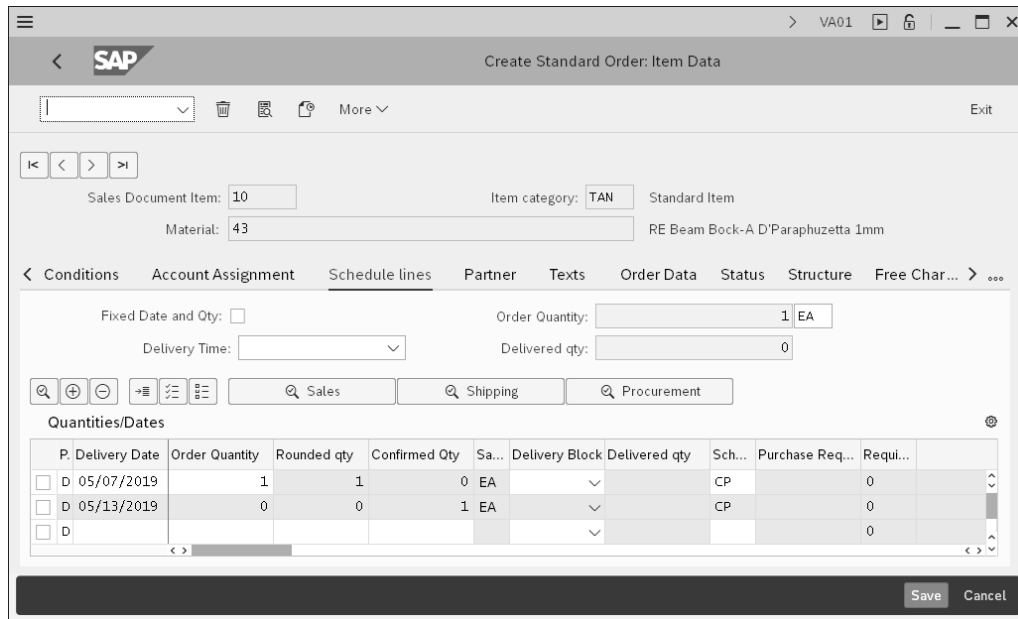
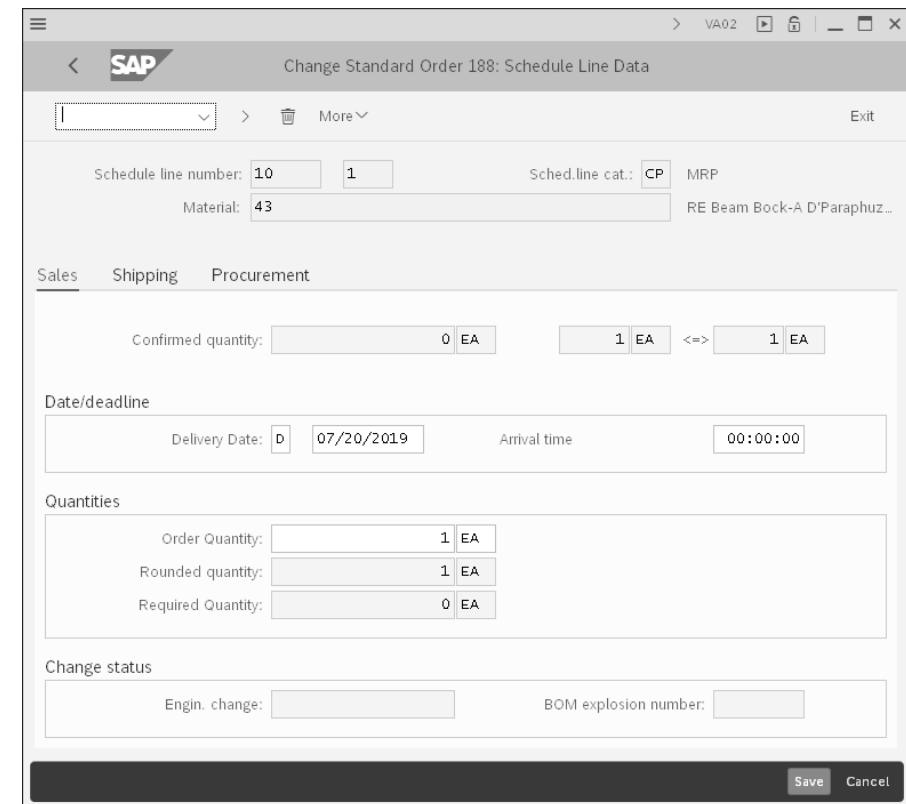
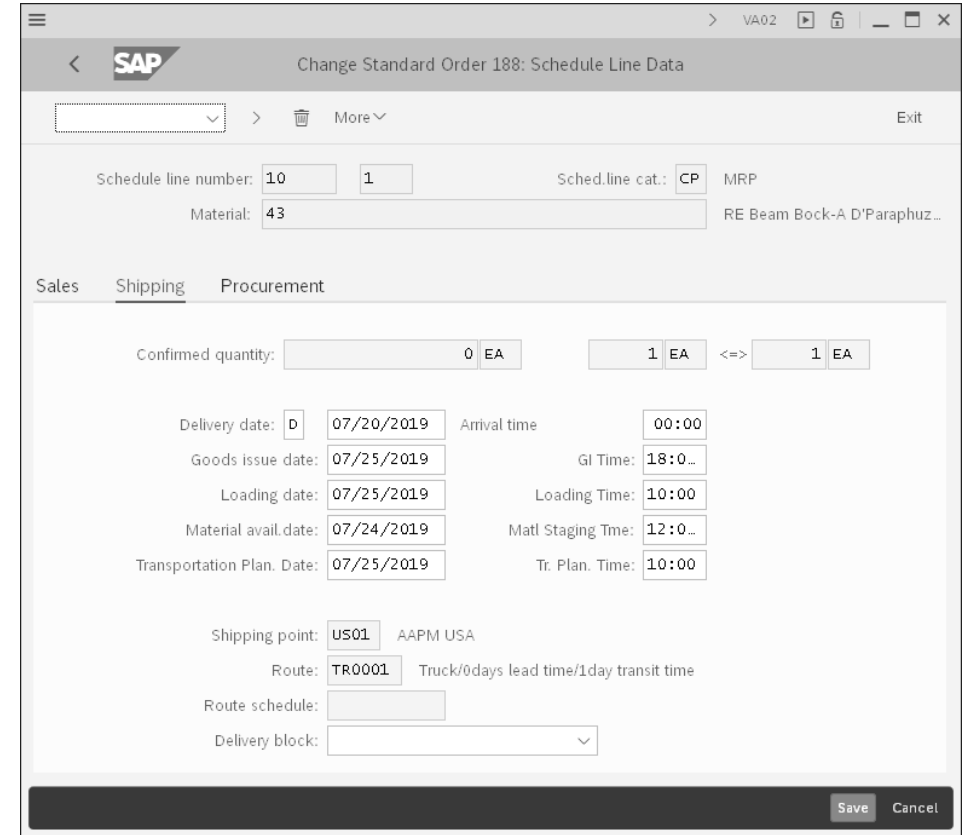

Figure 7.5 Sales Order Line: Schedule Line Tab
Figure 7.6 Sales Details Tab for the Schedule Line
Figure 7.8 Schedule Line Data: Shipping Tab
The results of the ATP check are stored in schedule lines, and you can consult and make changes on these lines by selecting the desired order line and clicking the **Schedule Lines for Item** button as indicated. Under the **Schedule Lines** tab, shown in Figure 7.5, you can change the requested delivery date, which affects each line only. You may also split the total quantity into multiple requested delivery dates and quantities.
You can consult the **Scheduling Line Details** (as shown earlier in Figure 7.5) by selecting a schedule line and clicking the details icon  on the left or clicking on the one of the detail buttons (**Shipping**, **Sales**, and **Procurement**), which will take you straight to the corresponding tab.
By clicking on **Sales**, as shown in Figure 7.5, you'll be taken to the **Sales** tab, shown in Figure 7.6.
Returning to the screen shown in Figure 7.5, by clicking on **Shipping**, you'll be taken to the **Shipping** tab, shown in Figure 7.8.
Returning to the screen shown in Figure 7.5 again, by clicking on **Procurement**, you'll taken to the **Procurement** tab, as shown in Figure 7.9.
Under the **Sales** tab, you'll see the same fields shown earlier in Figure 7.6. Let's look at how these fields differ with a forward scheduling line:
- The **Shipping Point**, **Route**, **Route Schedule**, and **Delivery Block** Fields on this screen have the same values as shown earlier in Figure 7.8.